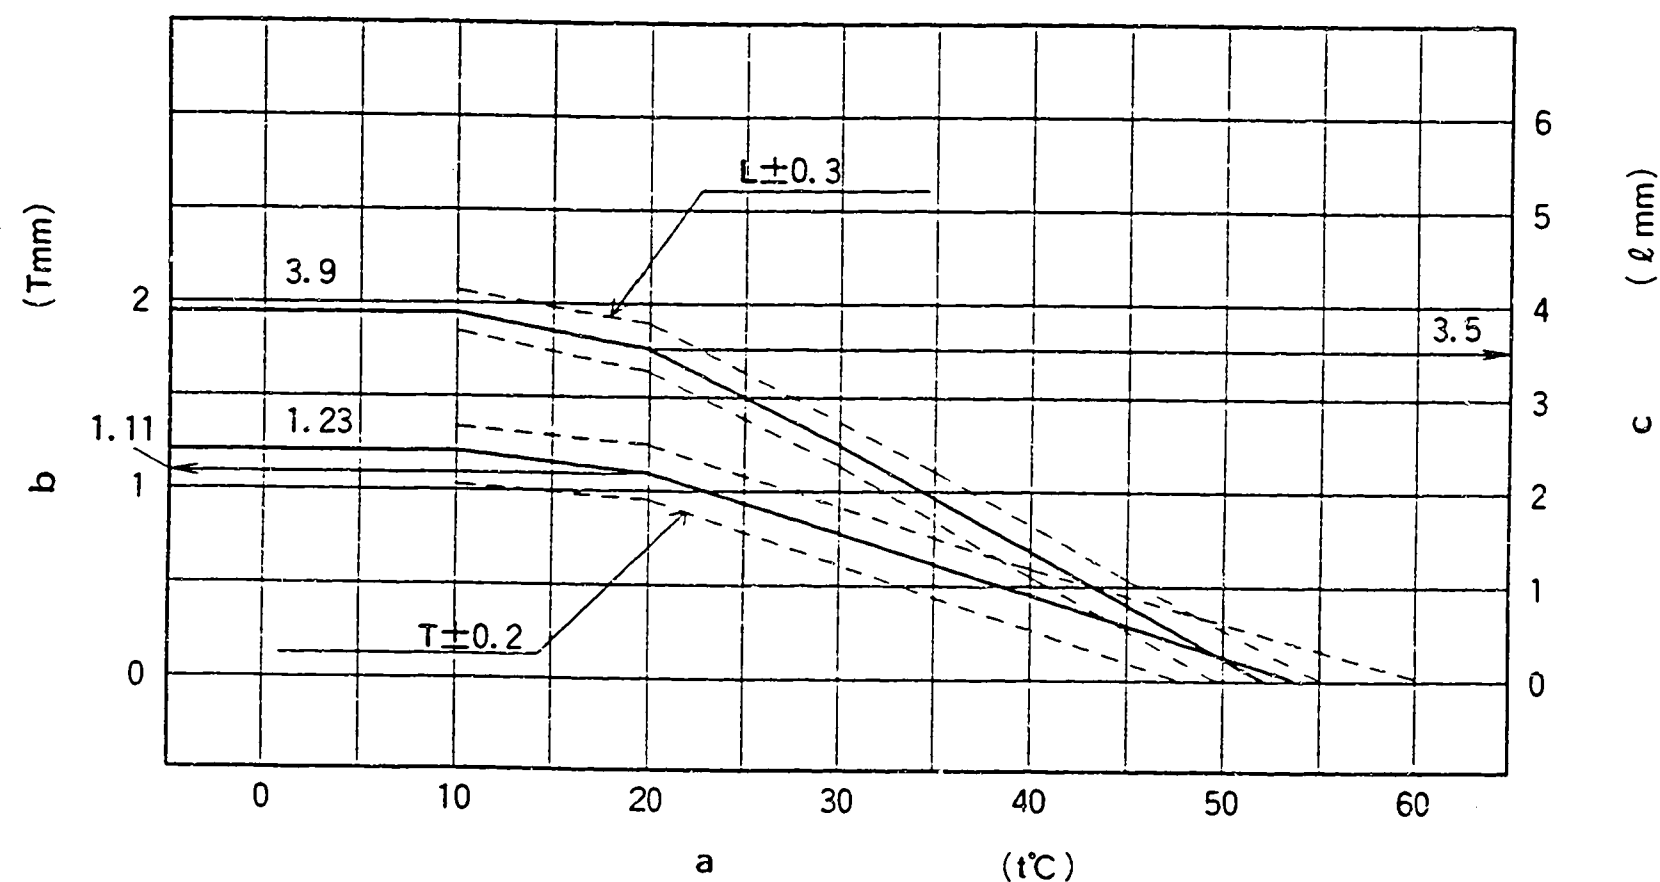

Figure 28
- 1) Calculate the block gauge dimension  $l \pm 0.05$  mm from (Fig. 28) according to the atmospheric temperature at the time of adjustment.
- 3) In the above condition, adjust screw (2) so that the intermediate lever setting screw contacts the control lever. Then, tighten locknut (1) to fix the screw.